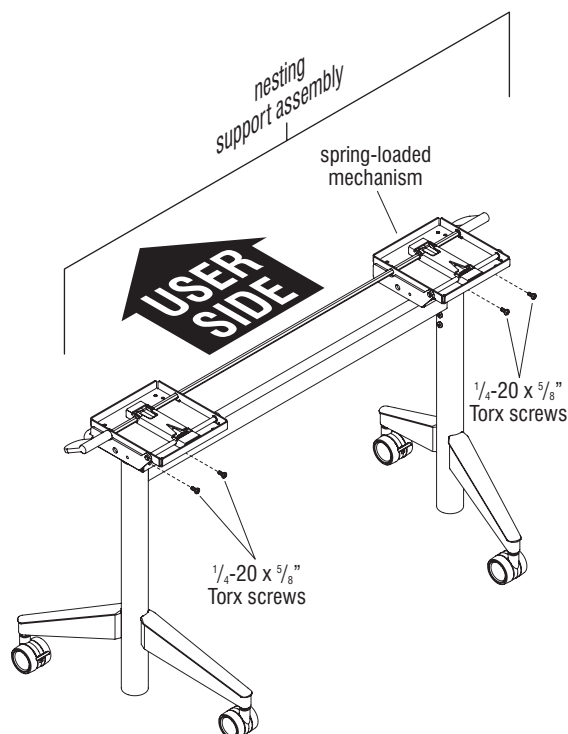

Figure 7
18. On the non-user side of the nesting support assembly, secure the leg attachment brackets to the lower hinge plates using two  $\frac{1}{4}$ -20 x  $\frac{5}{8}$ " Torx screws per bracket (Figure 7 & Detail J).